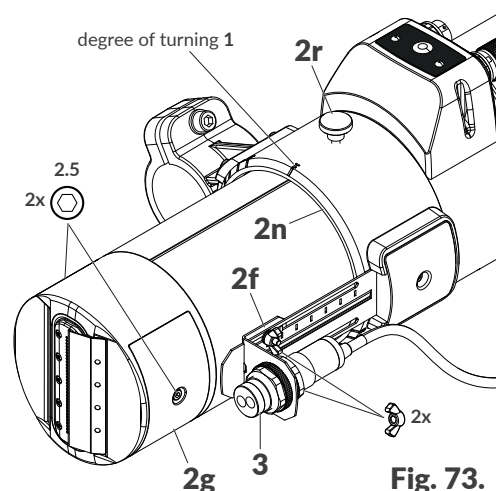

Fig. 73.
1. Position the printhead in the starting position of the holder **2n** (rotation degree = **1**; see **Fig. 73**).
3. Use a #2.5 hex key with a ball tip to loosen the screws that fasten blanking plates **2g** on both sides of the integrated printhead (see Fig. 73 on page 192).